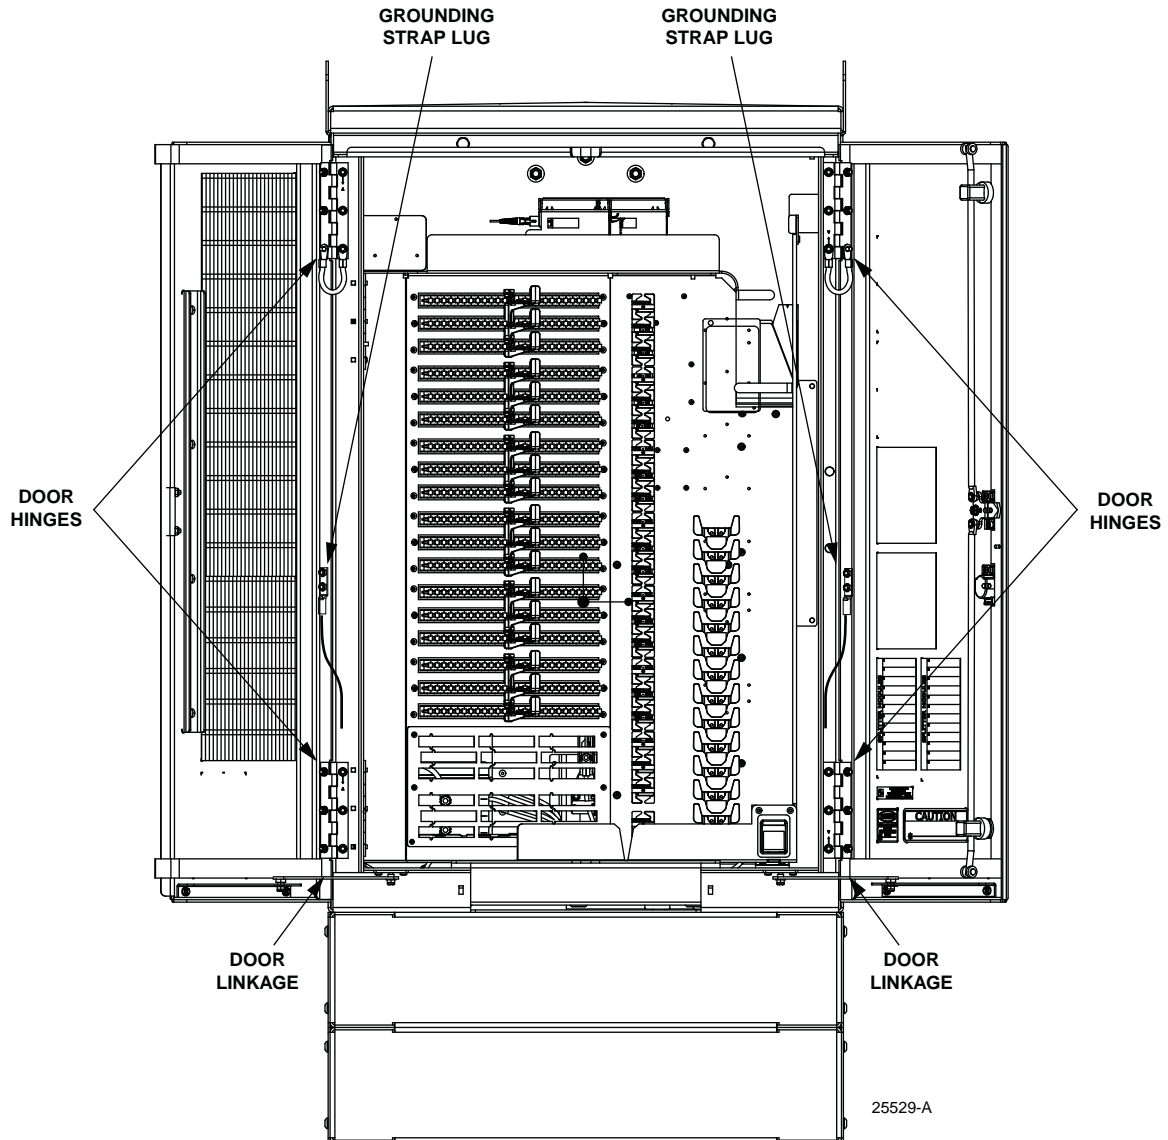

Figure 40. Door Replacement
1. Open both cabinet doors and lock them in the open position as shown in Figure 40.